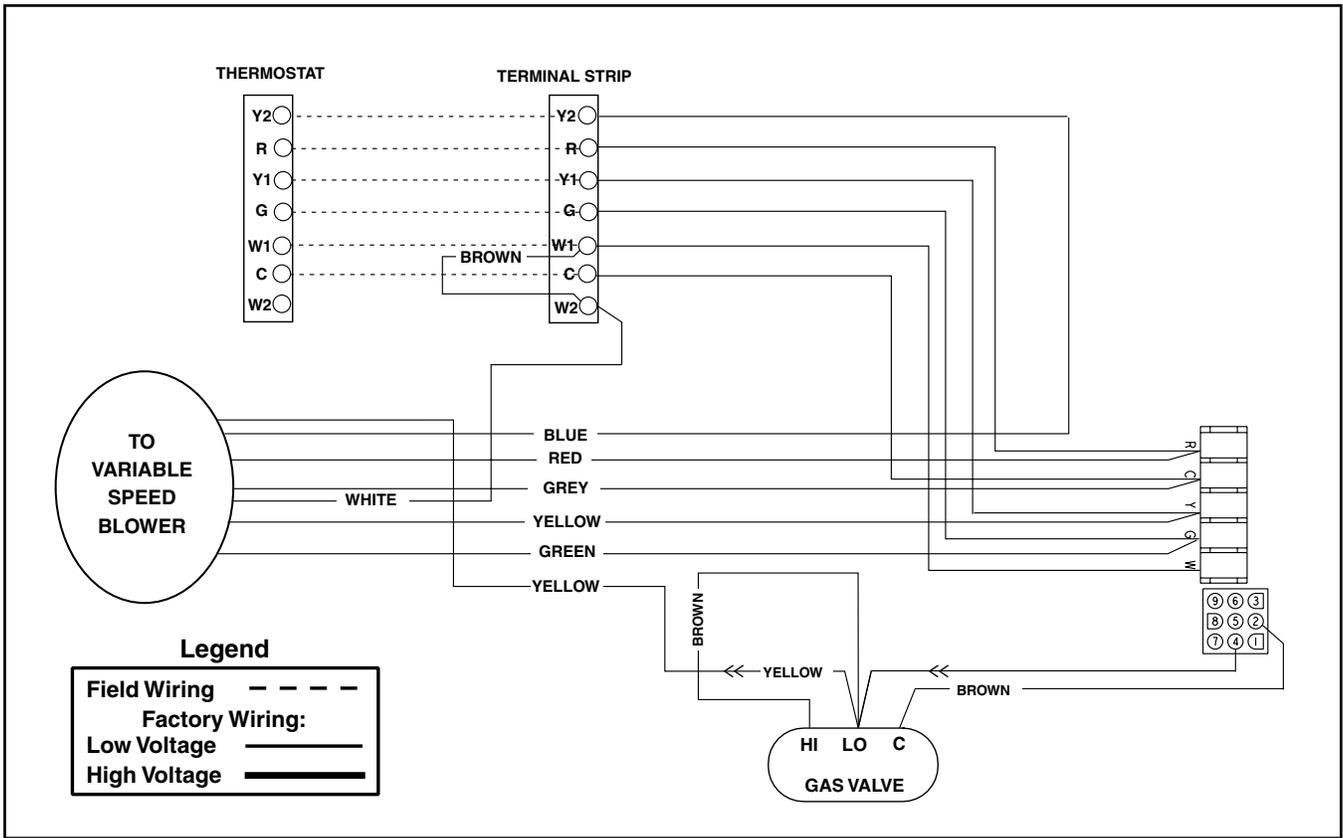

Figure 8a. High Fire Only Configuration (As shipped from the factory)
1. *High fire only configuration* – As shipped from the factory, the high and low terminals are connected with a brown jumper wire. W1 and W2 terminals are connected with a brown jumper wire (**See Figure 8a**). This defeats the staging feature and the furnace operates on high fire only. All of the burners will operate on a call for heat and the variable speed blower will operate at a higher speed.
3. Connect the cable leads to the subbase or thermostat terminals and to the unit's low voltage terminal strip **Figure 8a-b**. A system wiring diagram is also provided on the inside of the louvered control access panel and in **Figure 9-9a** of these installation instructions.